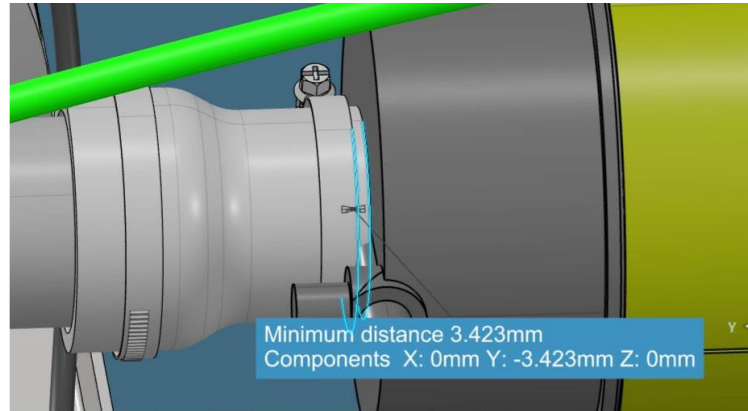

Figure 16: Air Compressor Coupler Clamp to Air Compressor
28. Ensure that the clamp is positioned no more than 3.4 mm from the edge of the filter box as shown in Figure 16. Torque to $6\pm 1\text{Nm}$